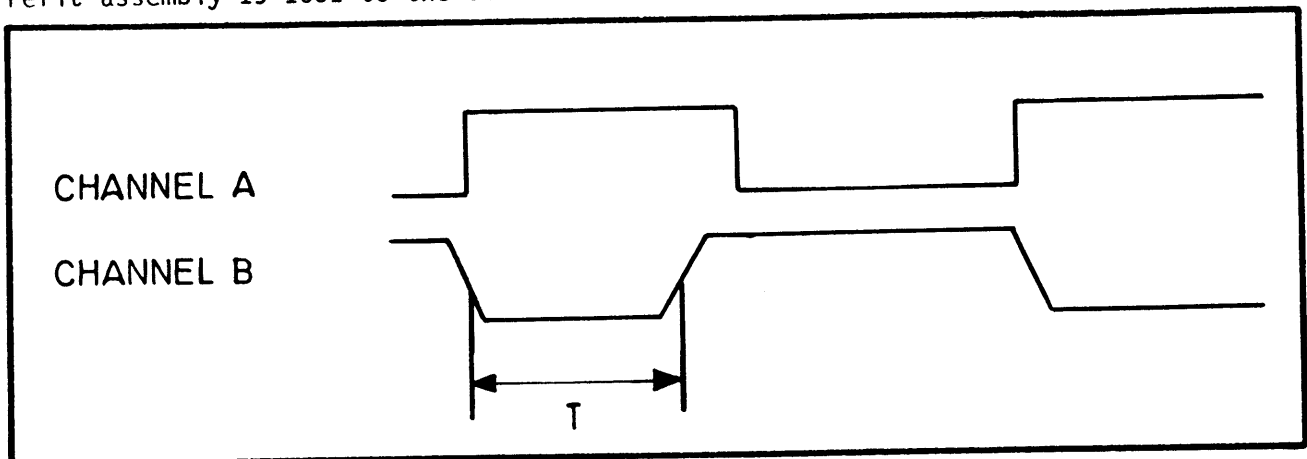

Fig. 7.13 Timing Adjustment Waveforms
7.7.4.3.3 Switch on the 9087 and adjust the oscilloscope to obtain a display similar to Fig. 7.13. Adjust R11 until pulse width T is  $370 \text{ ns} \pm 20 \text{ ns}$ .